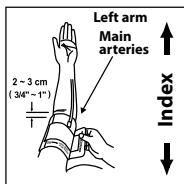

Fig. 6
4. Put your left arm through the cuff loop. The bottom of the cuff should be approximately (2~3 cm) above elbow. The tube should lie over the brachial artery on the inside of the arm (Fig. 6).